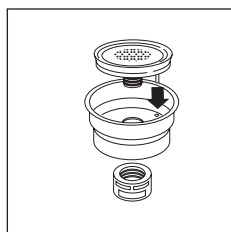

fig. 32
- Replace the assembly in the steel filter container (fig. 32), making sure the pin is inserted in the hole in the support (see arrow in fig. 32).